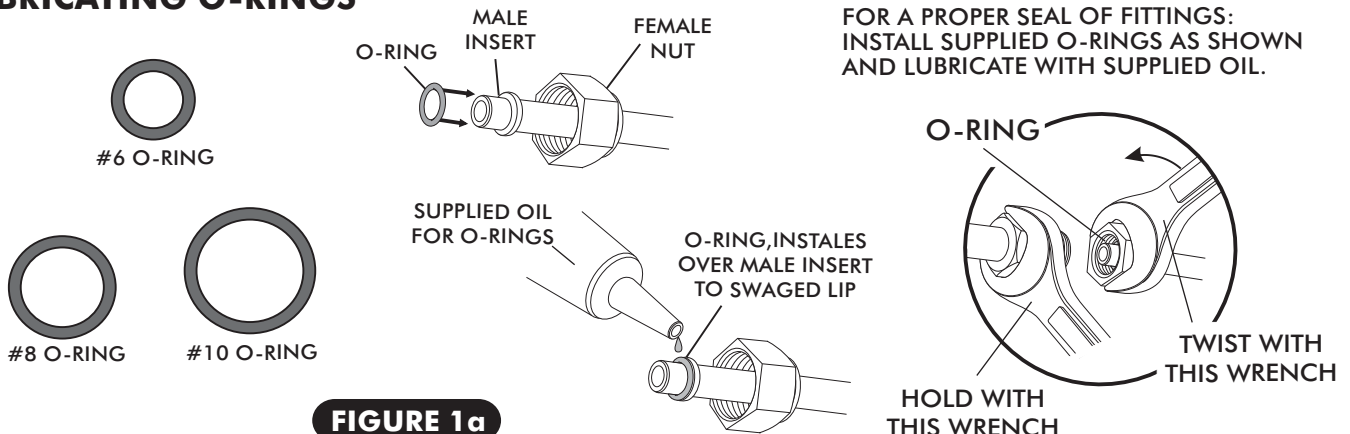
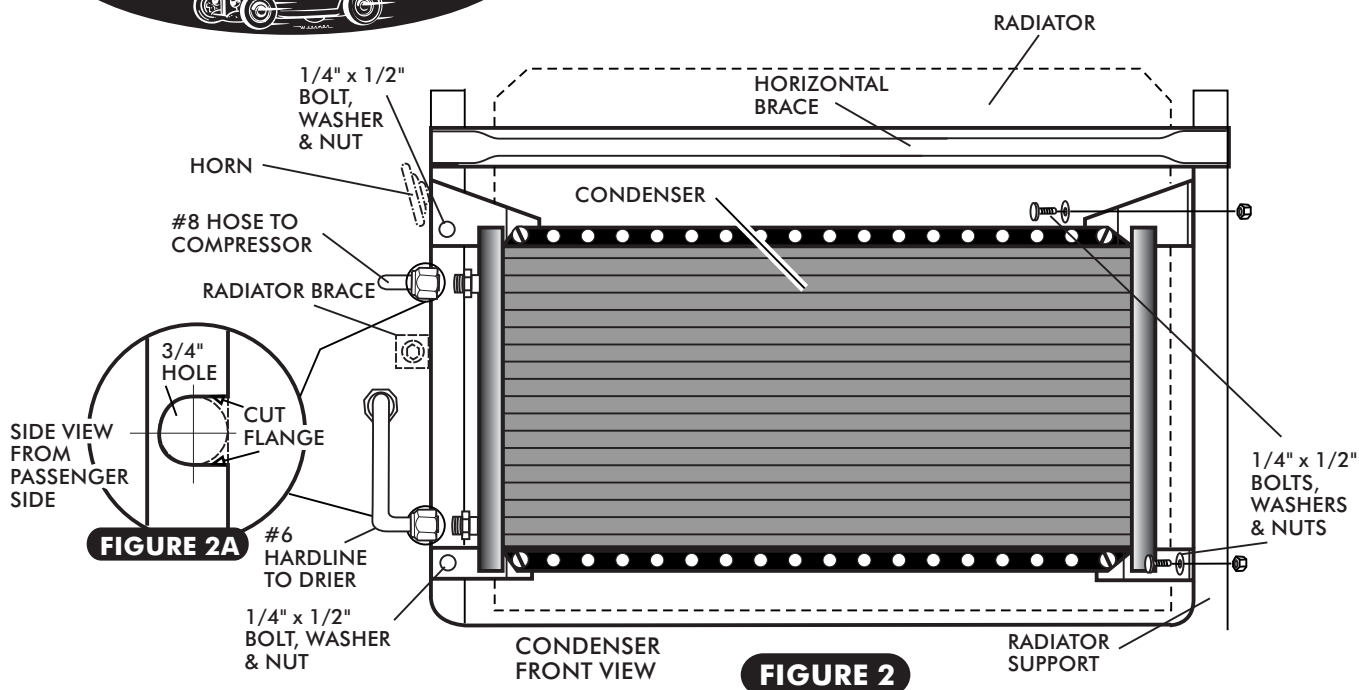
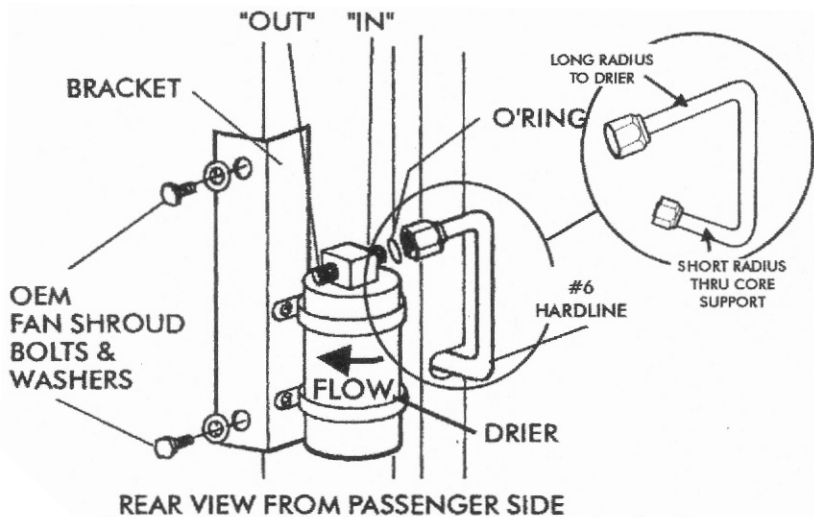
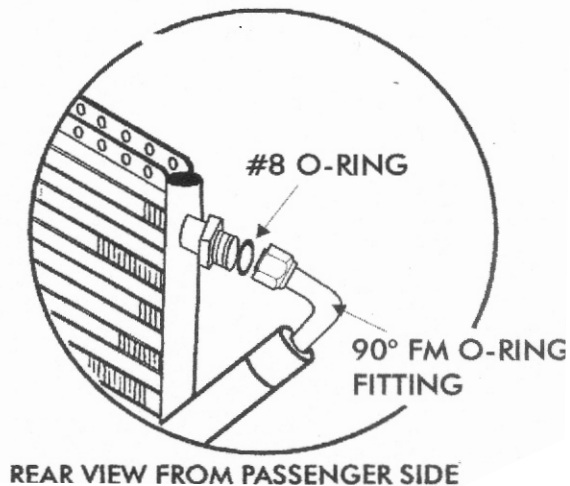

FIGURE 1a
FIGURE 2
FIGURE 3
FIGURE 4
- HOLD THE CONDENSER ASSEMBLY IN PLACE, THE TOP EDGE MUST BE BELOW THE OEM HORIZONTAL BRACE. THE #8 HOSE (PASSENGER SIDE TOP) WILL RUN BETWEEN THE HORN AND THE RADIATOR BRACE. SEE FIGURE 2, PAGE 6.
- LOCATE AND DRILL (4) 9/32" MOUNTING HOLES FOR CONDENSER MOUNTING BRACKET. **SEE NOTE, PAGE 6.**
- SECURE THE CONDENSER WITH (4) 1/4"NC x 1/2" BOLTS, NUTS AND FLAT WASHERS (SUPPLIED).
- LOCATE O-RING'S, LUBRICATE (2) #6 O-RING'S (SEE FIGURE 1a, BELOW) INSTALL O-RING'S ON THE #6 CONDENSER TO DRIER HARDLINE. INSTALL HARD LINE ON THE LOWER PORT OF CONDENSER. SEE FIGURES 2, 3 AND 4, PAGE 6.
- MOUNT DRIER ASSEMBLY TO THE BOTTOM (2) FAN SHROUD BOLTS ON THE PASSENGER SIDE. SEE FIGURE 3, BELOW.
- ATTACH THE #6 HARDLINE WITH LUBRICATED O-RING TO THE DRIER. SEE FIGURE 3, BELOW. TIGHTEN FITTING CONNECTIONS SEE FIGURE 1a, PAGE 5
- LOCATE THE #8 DISCHARGE HOSE THAT RUNS FROM THE CONDENSER TO THE COMPRESSOR. LUBRICATE (2) #8 O-RINGS (SEE FIGURE 1a, PAGE 5) INSTALL O-RINGS ON FITTINGS AND CONNECT THE 90° CONDENSER END TO THE CONDENSER SEE FIGURE 4, BEOW.
- CONNECT THE OPPOSITE END OF DISCHARGE HOSE TO THE #8 DISCHARGE PORT ON THE COMPRESSOR. SEE FIGURE 13, PAGE 11. TIGHTEN FITTING CONNECTIONS SEE FIGURE 1a, PAGE 5
- LOCATE THE #10 RUBBER AC SUCTION HOSE (LARGE HOSE) THAT RUNS FROM THE EVAPORATOR THROUGH THE FIREWALL COVER TO THE SUCTION SIDE OF THE A/C COMPRESSOR. LUBRICATE THE O-RING'S AS SHOWN IN FIGURE 1a, PAGE 5. CONNECT THE STRAIGHT END TO THE EVAPORATOR AND THE 135° END WITH SERVICE PORT TO THE SUCTION SIDE OF THE COMPRESSOR. BE SURE THERE IS NO INTERFERENCE BETWEEN THE TWO SERVICE PORTS. SEE FIGURE 13 & 13a, PAGE 11.
- LOCATE THE #6 RUBBER AC HOSE (SMALL HOSE). LUBRICATE THE O-RING'S SHOWN IN FIGURE 1a, PAGE 5. RUN HOSE FROM THE EVAPORATOR THROUGH THE FIREWALL COVER TO THE DRIER. THE 45° END CONNECTS TO THE DRIER AND TIPS UP TO CLEAR THE LEFT FRONT SHOCK. SEE FIGURE 13 & 13a, PAGE 11.
- ONCE FITTINGS ARE ALIGNED, TIGHTEN ALL FITTING CONNECTIONS (SEE FIGURE 1a, PAGE 5). USE TWO CLAMP ASSEMBLIES TO SECURE THE #6 AND #10 HOSES. SEE FIGURE 13c.